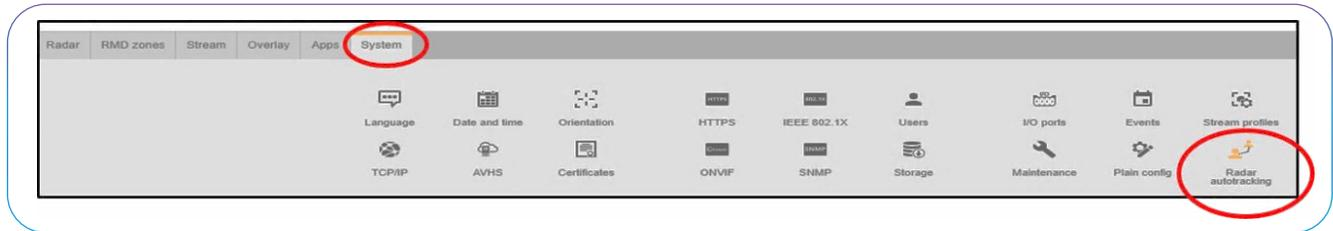

Figure 24. Main Page – System Tab
- On the Main Page, click the **System** tab, then click **Radar Auto-Tracking** (Figure 24).